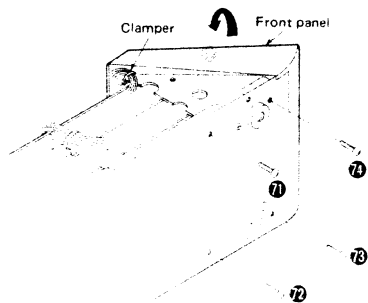

Fig. 17
2. Remove the 4 setscrews (Fig. 17 : ㉗ ~ ㉙) of the front panel.